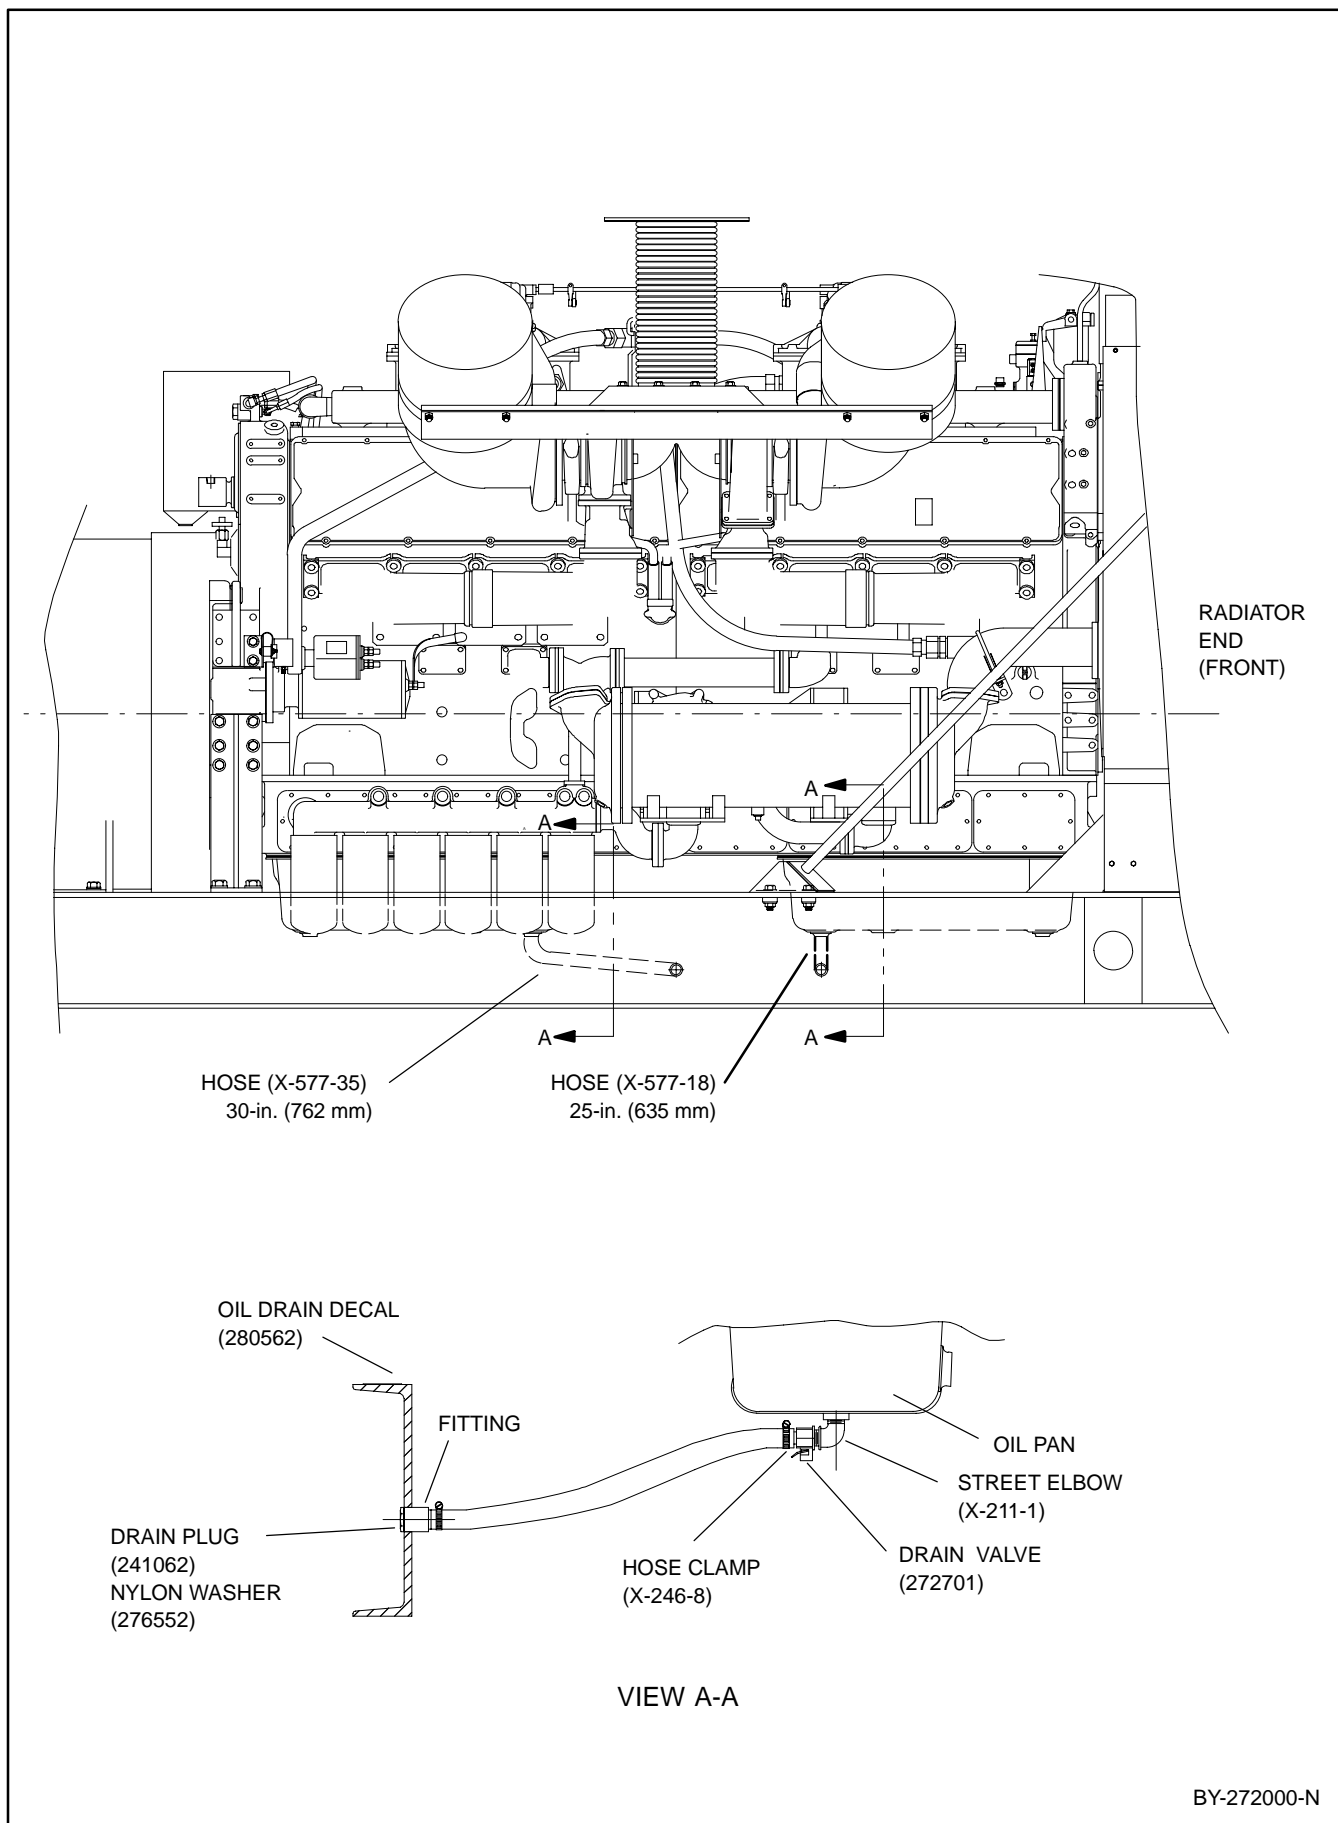

Figure 1. Oil Drain Kit
4. Install 1/2-in. NPT elbow (X-211-1) in place of drain plug (see Figure 1).